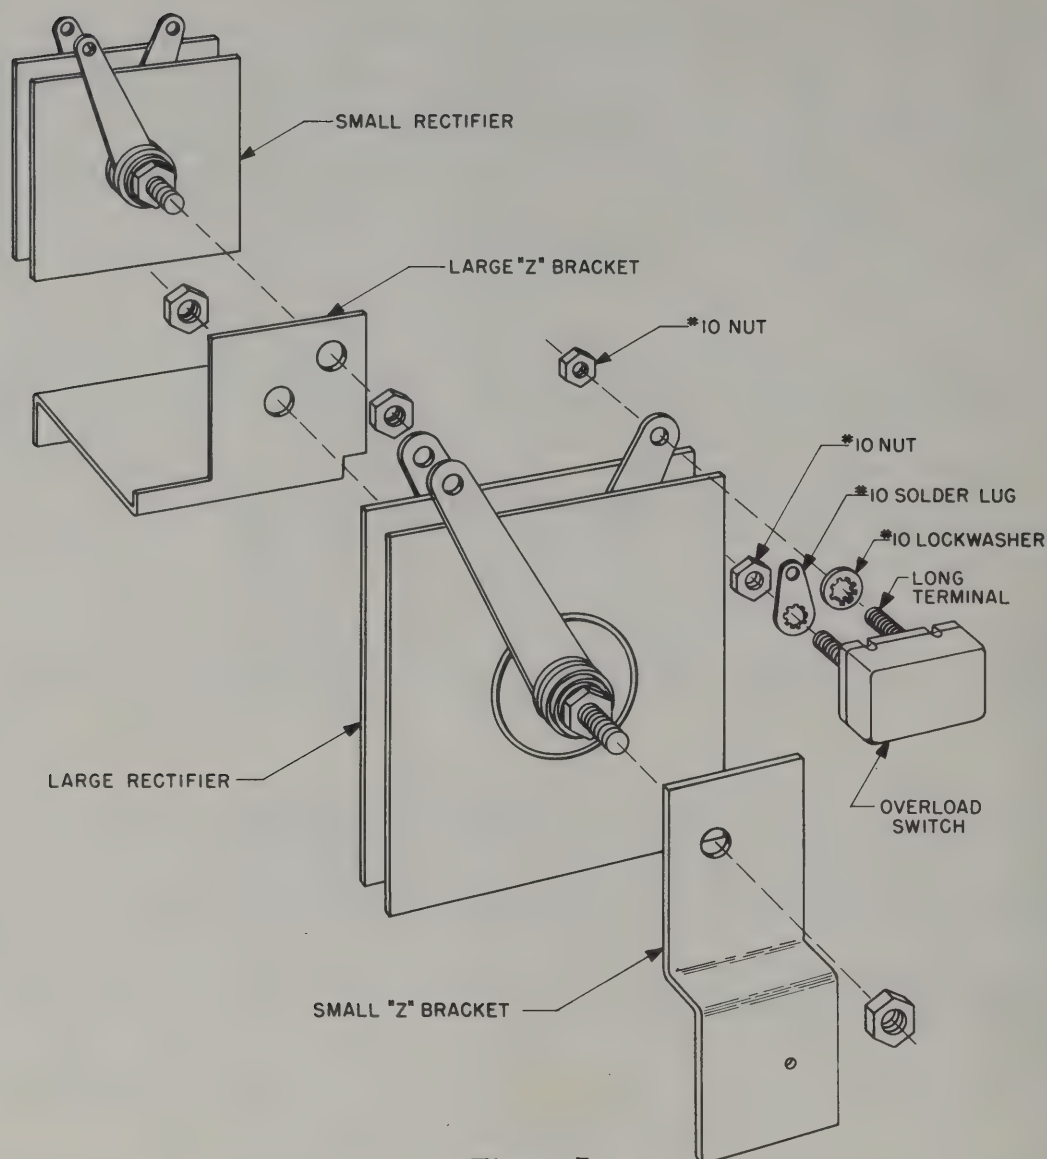

Figure 7
- (✓) 23. Referring to Figure 7, mount the long terminal of the overload switch to the larger rectifier with a #10 lockwasher and nut.
- (✓) 24. Mount a #10 solder lug, pointing up, on the short terminal of the overload switch (shown at L in Fig. 8) with a #10 nut. Also see Figure 7.
- (✓) 25. Remove the nuts from both ends of the large rectifier. Mount the large rectifier to the small "Z" bracket and to the large "Z" bracket with the hexagonal nuts, with the rectifier terminals oriented as shown in Figure 7. If the nuts go on too tightly, a drop of household lubricating oil on the threads will help.
- (✓) 26. Remove the nut from one end of the small rectifier and mount the small rectifier to the large "Z" bracket with the nut. (See Figure 7.)